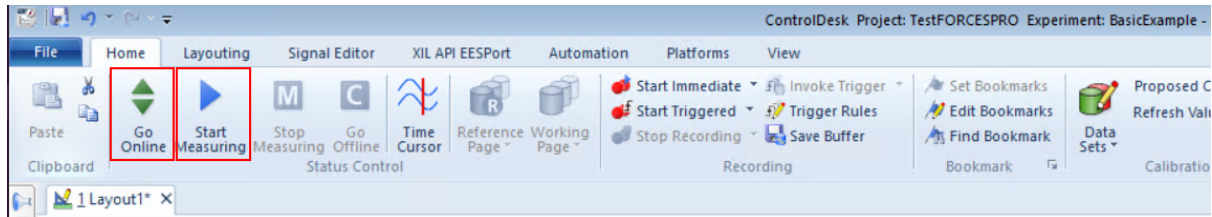
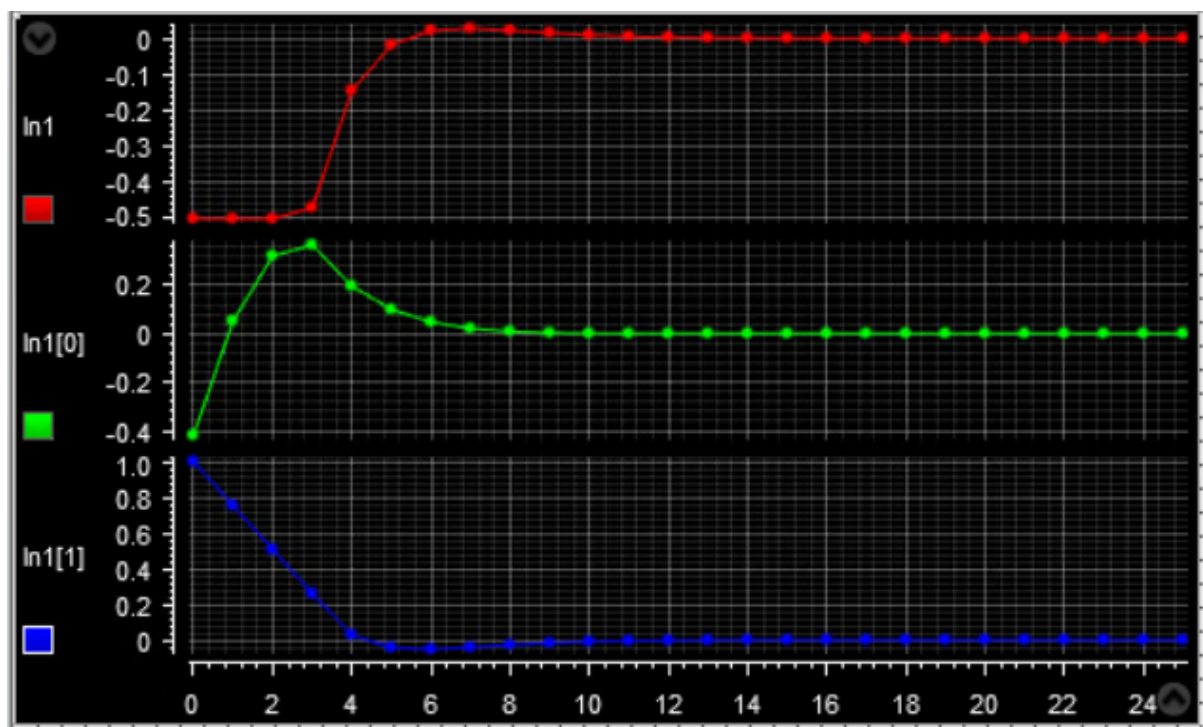

Figure 13.58: Buttons Go Online and Start Measuring to receive execution results.
Figure 13.59: Plots and results from experiment on a dSPACE platform.
- 10) Select Go Online and Start Measuring to see the results. (see Figure 13.58 and Figure 13.59).